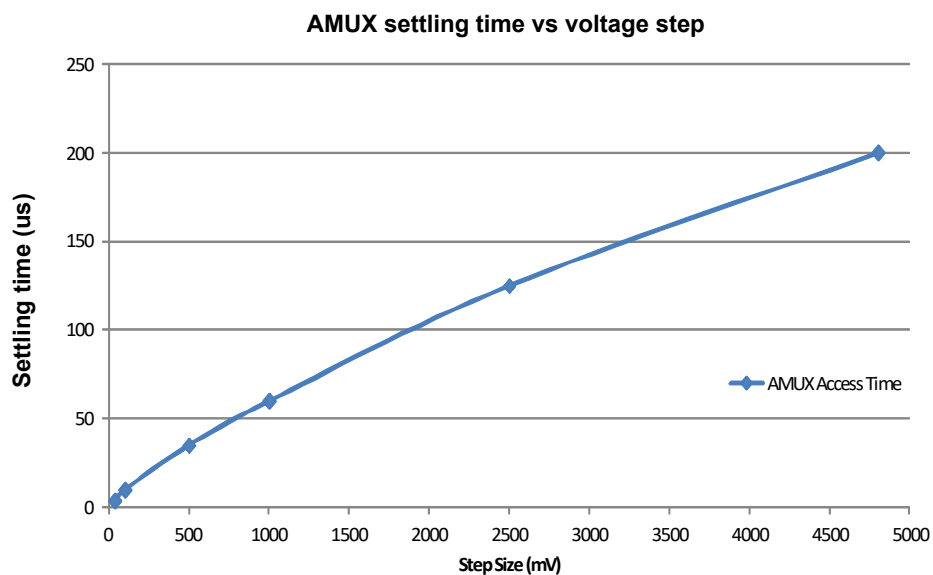

Figure 9. AMUX access time waveform
26. AMUX settling time to be within the 10 mV offset specification.  $AMUX_{VALID}$  is dependant of the voltage step applied on the input SGx/SPx pin or the difference between the first and second channel selected as the multiplexed analog output. See Figure 9 for a typical AMUX access time VS voltage step waveform.